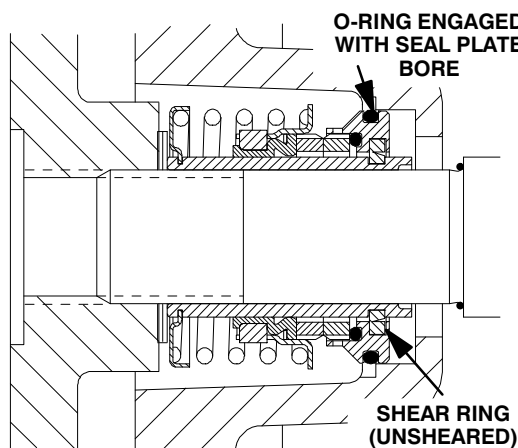

Figure 9. Seal Partially Installed
Clean and inspect the impeller as described in **Impeller Installation and Adjustment**. Install the full set of impeller shims (32) provided with the seal, and screw the impeller onto the shaft until it is seated against the seal (see Figure 9).